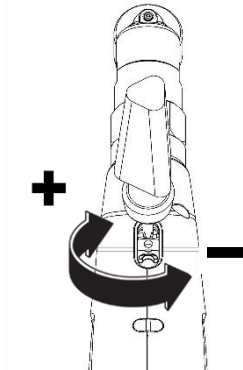

Fig.4
3. Turn the screw plug to setup the torque (see Fig.4).